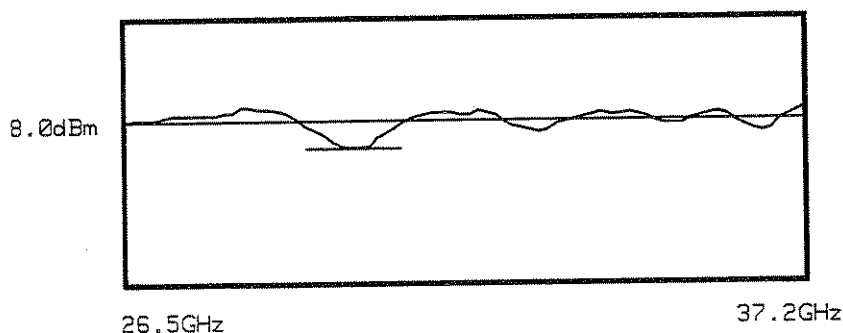

Figure 2-5. Minimum Power Point (26.5 to 37.2 GHz)
6. Find the minimum power point between 26.5 GHz and 37.2 GHz by slowly adjusting the TUNE knob from 26.5 GHz to 37.2 GHz and noting at which frequency minimum power occurs. See Figure 2-5.